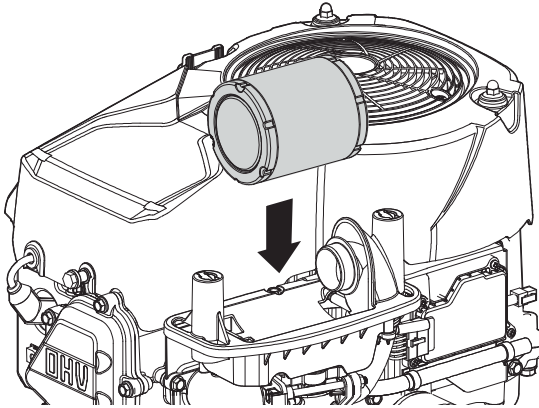

Figure 11
6. Attach the new air filter with foam element, aligning the hole in the air filter with the intake manifold (Figure 11).